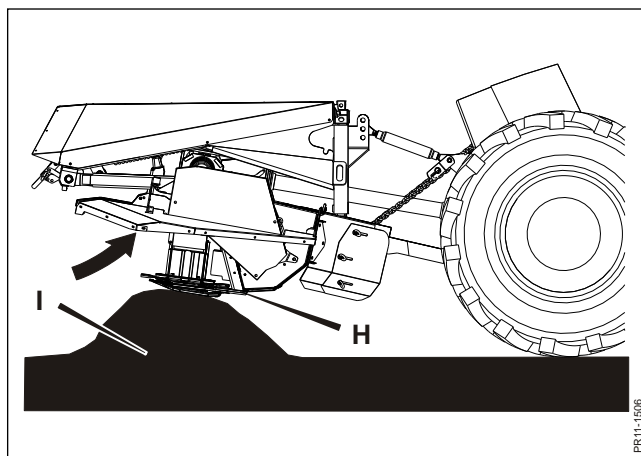

Fig. 3-15
**Fig. 3-15** When the cutting unit **H** meets an obstacle **I** and you continue driving forward, the cutting unit moves to the rear and up and the cutter bar turns backwards. This gives optimum preconditions for the cutting unit to slide over the obstacle. Be especially aware of sudden movements and bumps against the cutting unit and reduce the driving speed considerably. If necessary, declutch, stop and examine the obstacle. (The above especially applies in stony areas).